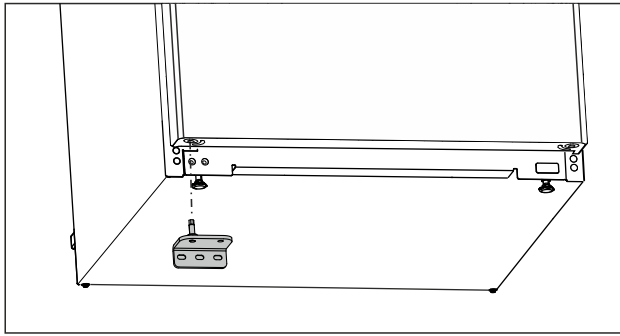

Fig. 25
- Insert the lower swap bearing block on the opposite side. (see Fig. 25)